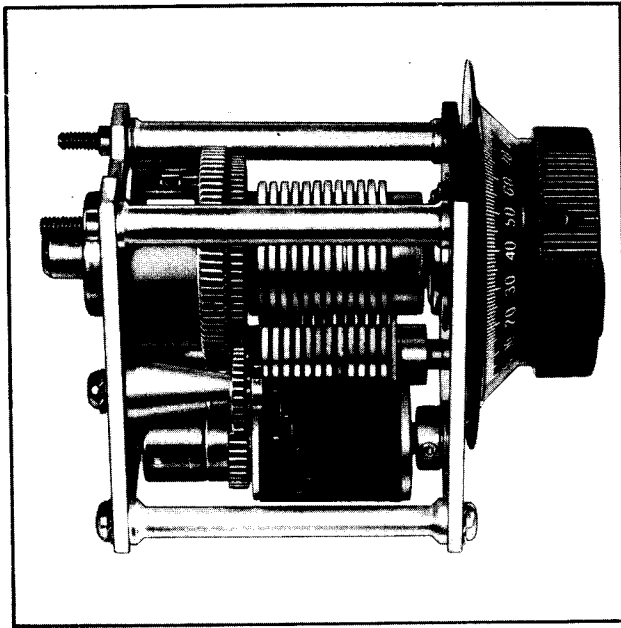

Figure 4-15. Singleturn Autotune Unit (Type 96J)—
c. OPERATION CYCLE OF AUTOTUNE MECHANISM.—The Autotune system consists of one Multiturn unit and several Singleturn units (see figs. 4-15, 4-16, 4-17, 4-18, and 4-19) which are driven by a reversible motor through a line shaft. The Multiturn unit may be set up to select any dial setting in a continuous range of 7200 angular degrees (20 turns or revolutions) of dial rotation.